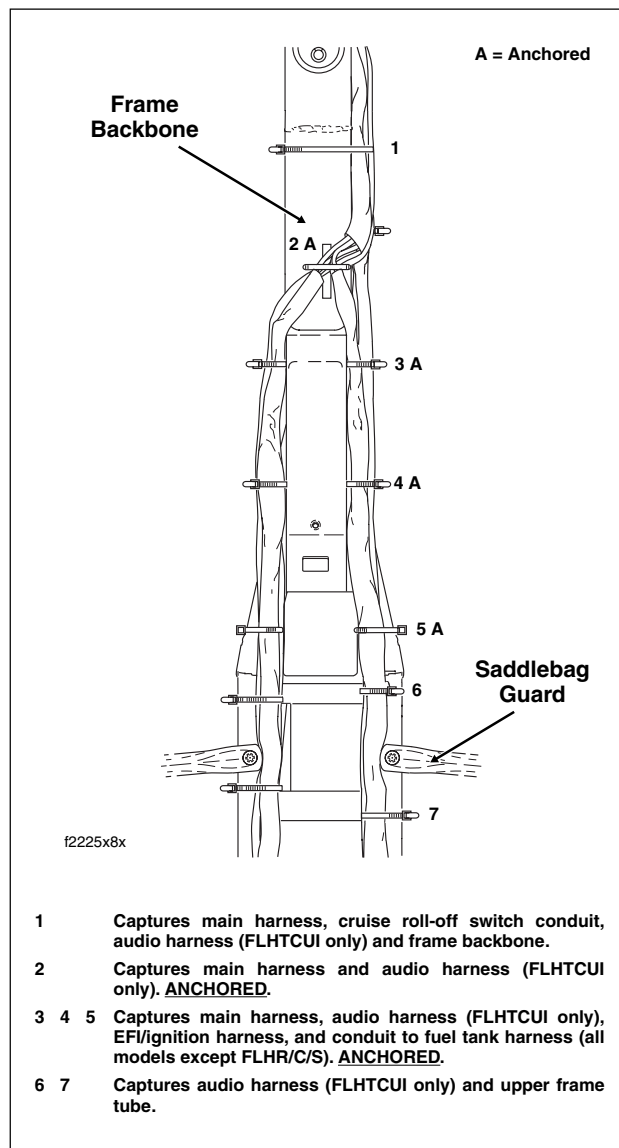

Figure 8-180. Install Cable Straps
7. Carefully cut cable straps securing audio harness to frame backbone, right frame tube and luggage rack rail. See Figure 8-180. Carefully cut cable straps securing audio harness to main harness, if present.
9. Install remaining cables straps as shown in Figure 8-180.